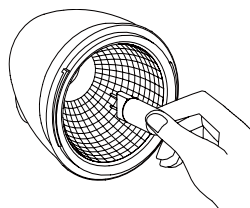

FIG. 2b
- Install G9 halogen bulb to its lamp holder (FIG. 2b).